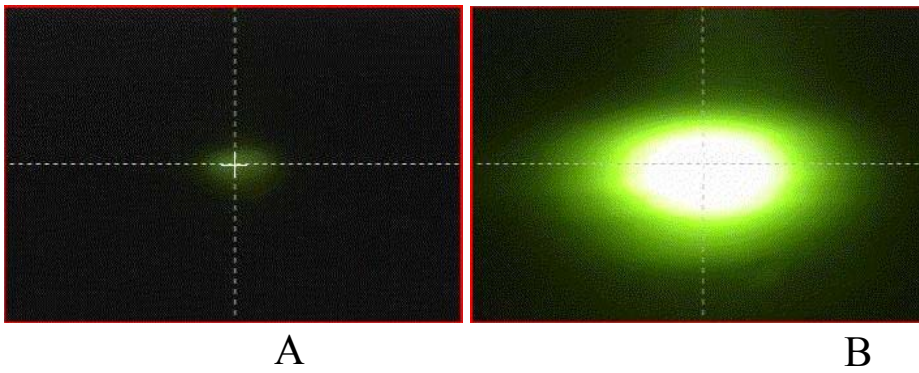

Figure 7. Centered beam on YAG with the zoom value of 2 (A) and zoom 14 (B)
- A) Check the zoom on high res camera. If the zoom value is low (< 4) and you don't see the beam, it may be centered but obscured by the hole in the lens which is centered at the crosshairs (Fig. 7). Increase the zoom until you see the beam.